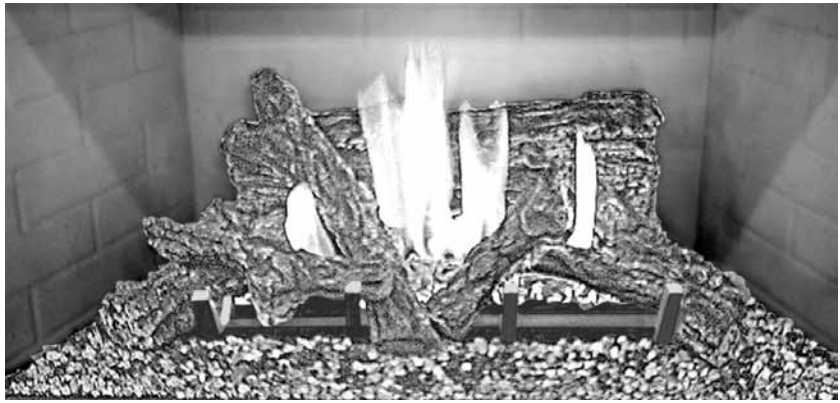

Figure 13 - Burner Flame Appearance, Model MPDP35
1. Refer to **Figures 13, and 14** for proper flame appearance. To adjust the flame, rotate the adjustment rod toward the back or toward the front of the fireplace (rod located in the lower control area). Position the air shutter to the factory setting as shown in the table in **Figure 15**.